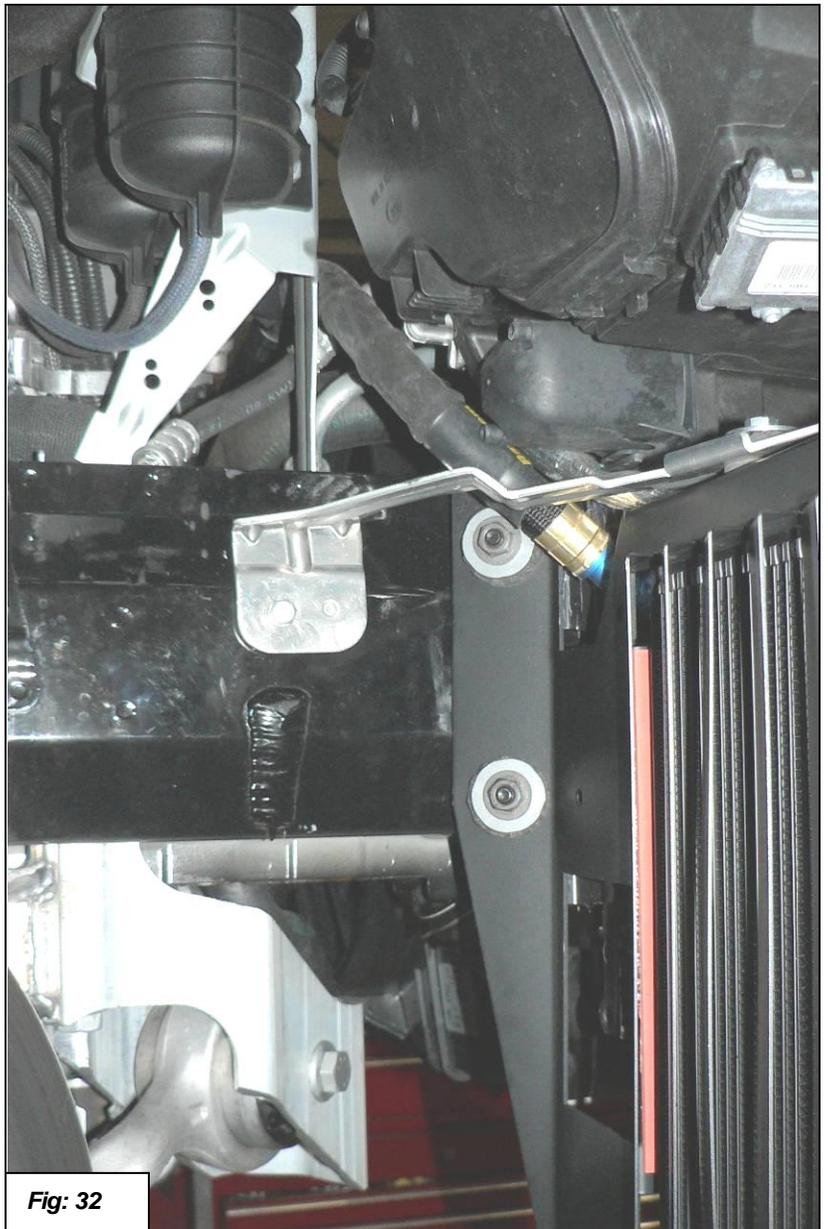

Fig: 32
38. Feed the oil line in between the headlight and the bracket as shown in figure 32. Attach the oil cooler assembly to the mounts as shown with the two stock 8mm nuts and the 6mm bolt. Torque nuts to 20Nm (15ft-lbs.) and bolt to 8Nm (6ft-lbs.). See figure 32.